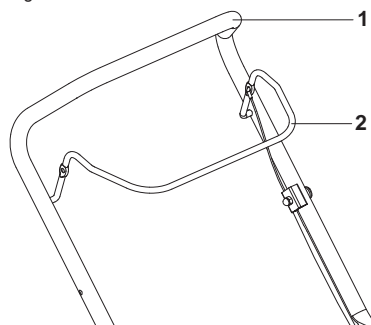

Fig. 11
1. Pull the brake bar (2) towards the Upper handle bar (1) and hold it in position when starting the engine. Keep it squeezed during operation (Fig. 11).
2. Release the brake bar (2) to stop the engine.